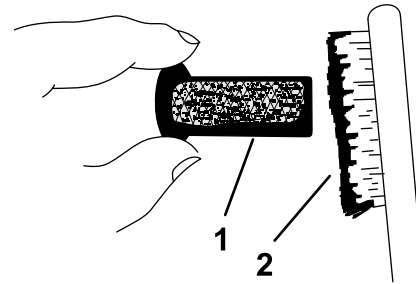

**Figure 50**
5. Remove the 2 nuts (8 mm) and remove the muffler from the cylinder (Figure 50).
7. Remove the screws (5 mm and 6 mm) from the muffler protector, and remove the muffler protector (Figure 50).
8. Remove the screws (4 mm) from the spark arrester, and remove the spark arrester from the muffler (Figure 50).
6. Remove the 3 screws (4 mm) from the exhaust deflector, and remove the deflector (Figure 50).